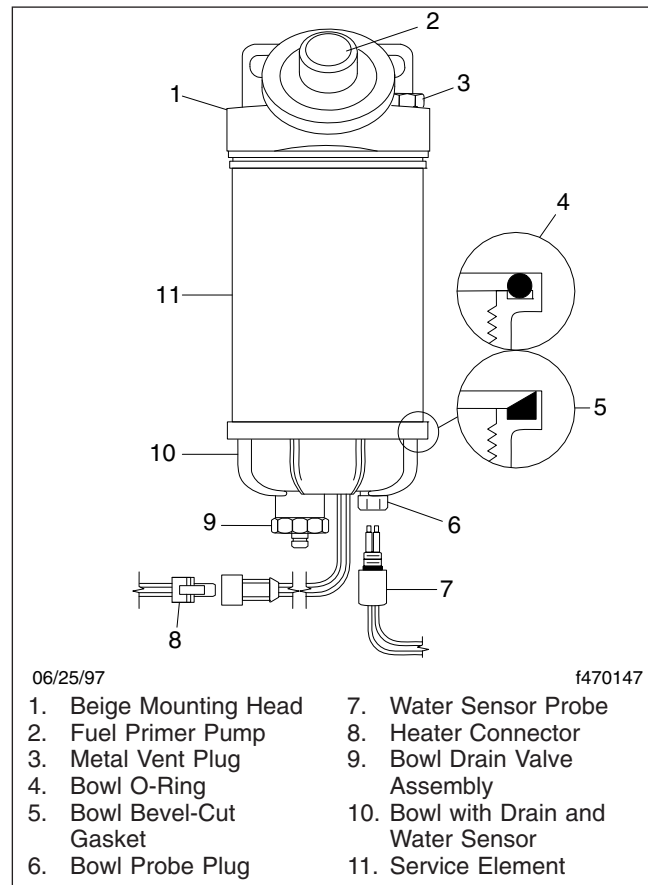

Fig. 2, Racor 490 Fuel Separator
- 8.1 Loosen the vent plug. Then operate the primer pump until the fuel purges at the vent plug. See Fig. 2.